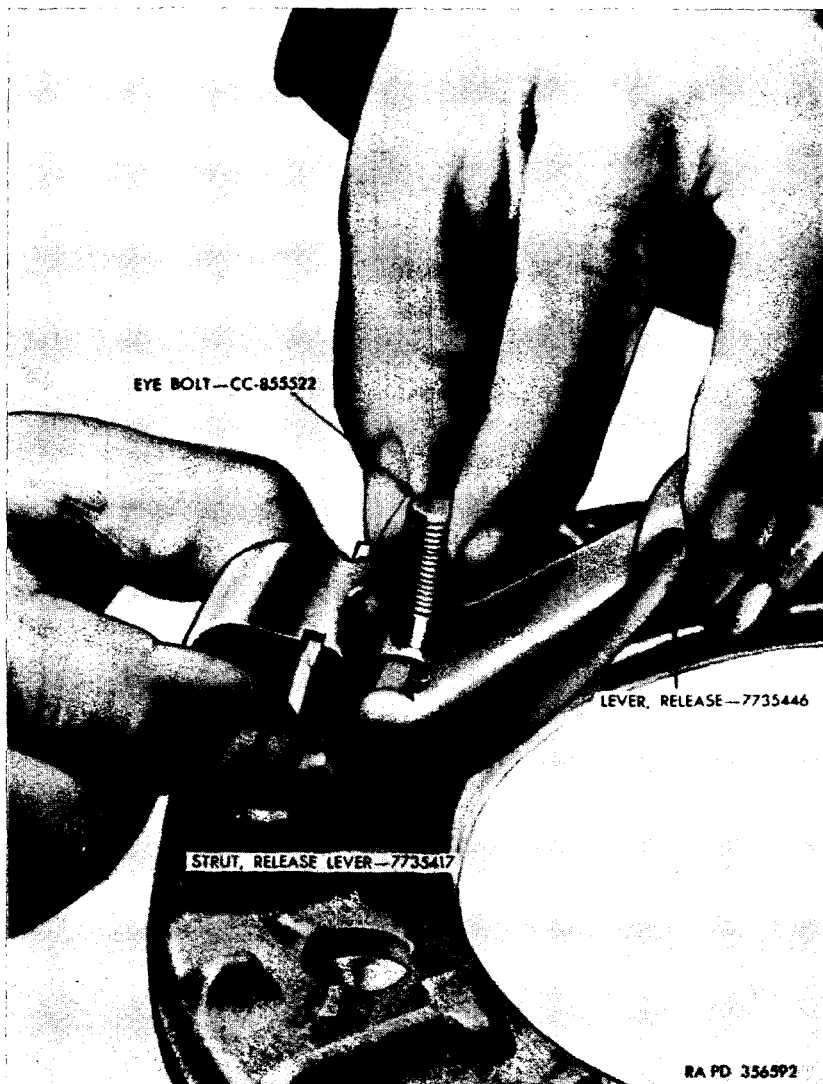

Figure 101. Removing or installing release lever.
c. *Dissassembly of Pressure Plate and Cover.* Remove the three eye bolt nuts. Release the cover with the clutch rebuilder 41-C-2480 according to the instructions of the tool manufacturer. Remove the cover and detach the release lever spring from the pressure plate. Remove the release levers (fig. 101) by holding the eye bolt, while lifting the inner end of the release lever as high as possible. Press down on the eye bolt to keep it in its socket and lift the release lever strut over the ridge at the outer end of the lever. Lift the eye bolt off
- (1) *Installing eye bolts and release levers.* Place the pressure plate in a convenient working position and lightly coat the release lever pin, the plain end of the eye bolt, and the edges of the release lever strut with general purpose lubricant GAA. Install lever pin in the eye bolt. Place the release lever over the threaded end of the eye bolt so the groove of the lever fits over the lever pin. Hold the threaded end of the eye bolt (fig. 101) and raise the inner end of the lever as high as possible. Place the lever strut in the slot of the pressure plate lug. Lift the strut up into the lug slot and tilt it so it will pass the ridge on the lower end of the lever. Drop it into the groove in the lever. Follow this procedure with the other two eye bolts and lever parts.
- (2) *Assembling cover to pressure plate.* Place the compression springs over the bosses of the pressure plate. Assemble the